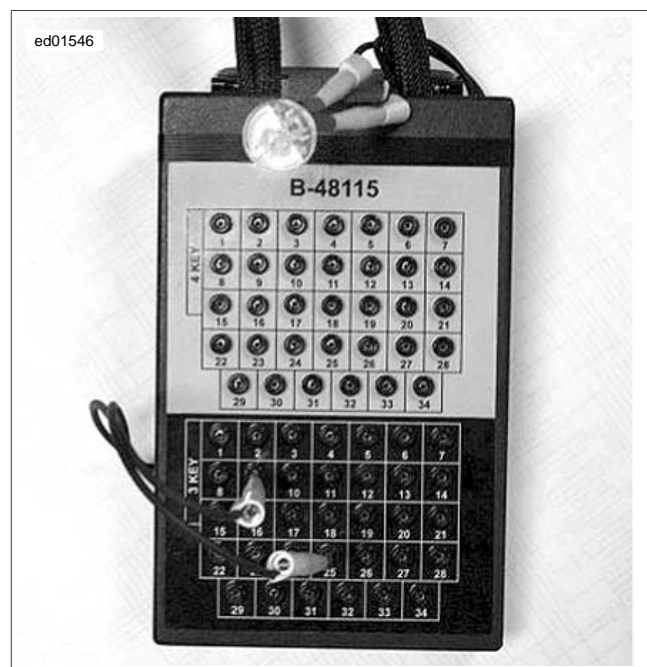

Figure 2-30. Ignition Coil Circuit Test
6. See Figure 2-30. Plug FUEL INJECTOR TEST LAMP (Part No. HD-34730-2C) into Breakout Box. Note that cranking